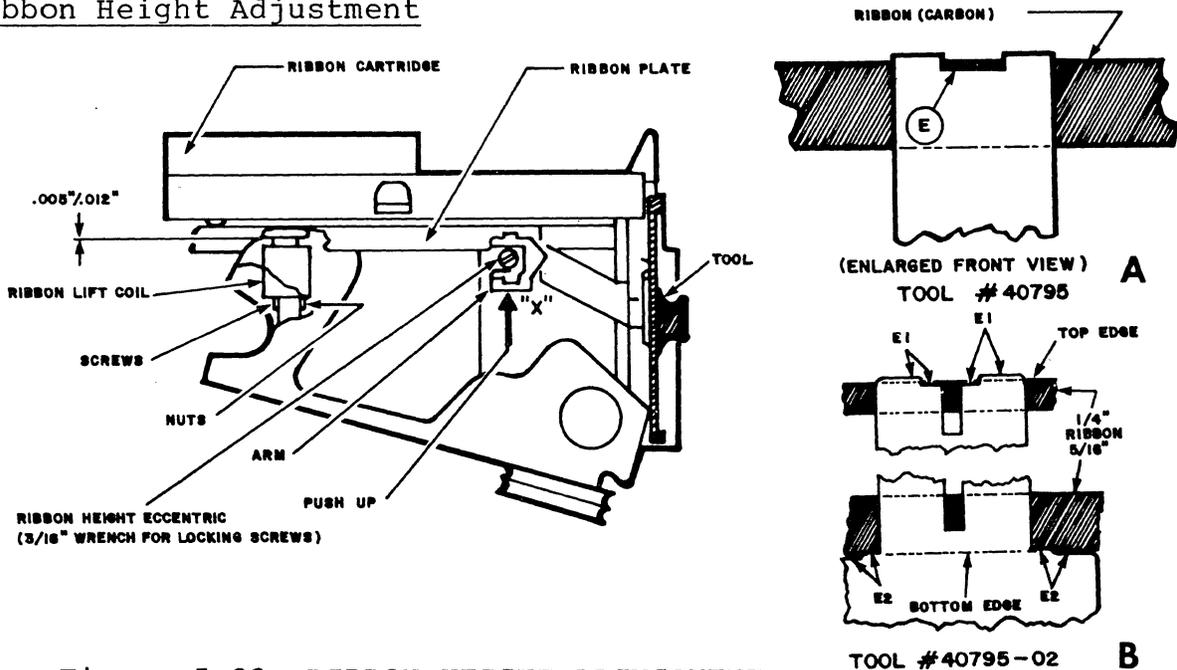

Figure 5-23 RIBBON HEIGHT ADJUSTMENT
Adjustment Tool #40795 - 1/4" Ribbons ONLY. Refer to Figure 5-23 (A).
- # Remove the ribbon cartridge and print wheel (if installed). Install the #40795 Adjustment Tool on the print wheel motor shaft hub, and rotate the tool to bring the ribbon height adjustment feature (E) to the top.
- # Push up on the carriage ribbon base plate tab "X" so the TOP EDGE of the exposed ribbon is brought near the top of the tool. The top edge of the ribbon should be visible within the slot, as shown in Figure 5-23(A). Adjust the ribbon height eccentric as required to achieve this objective.
Adjustment Tool #40795-02 - 1/4" OR 5/16" Ribbons. Refer to Figure 5-23(B).